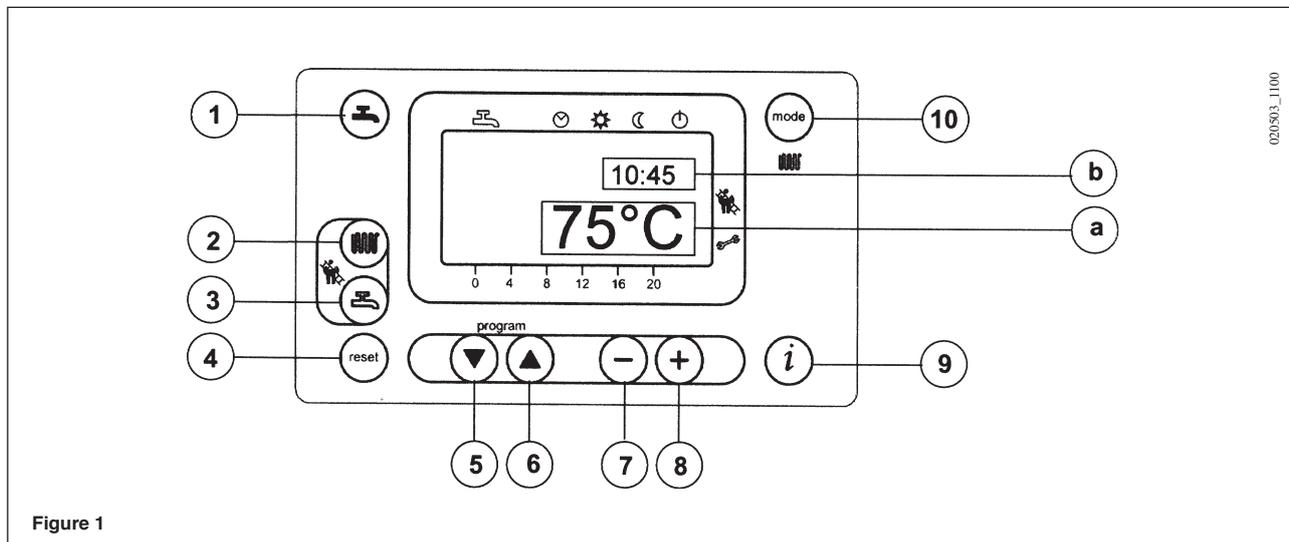

Figure 1
- Press the  key (2-figure 1) to set the central heating water temperature;
- Press either of the   keys (1 or 10 - figure 1) to save and return to the main menu.
**N.B** – With the outdoor sensor connected, the  key (2 - figure 1) can be used to shift the central heating curve. Press the   keys to decrease or increase the room temperature in the premises to be heated.
- Press the  key (3-figure 1) to set the maximum hot water temperature;
The fault warnings appear on the main display (figure 1 a) together with the symbol (Figure 4).
Fault warnings appear on the secondary display (figure 1 b) alternating with the time, both of them flashing (figure 4.1). It is not possible to reset malfunction warnings which appear on the secondary display as the cause of the alarm has first to be removed.